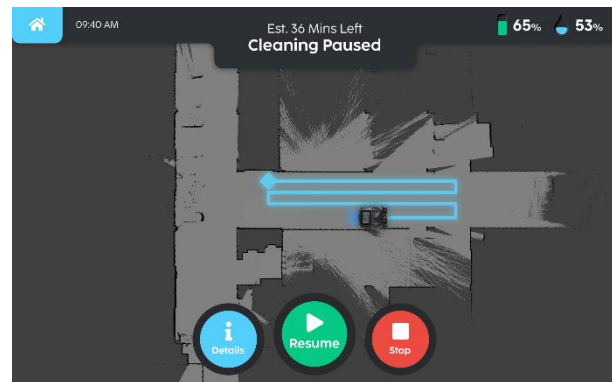

Fig. 9
8. The robot shall start the cleaning operation, the operator may pause or stop cleaning at any time (Fig 9).